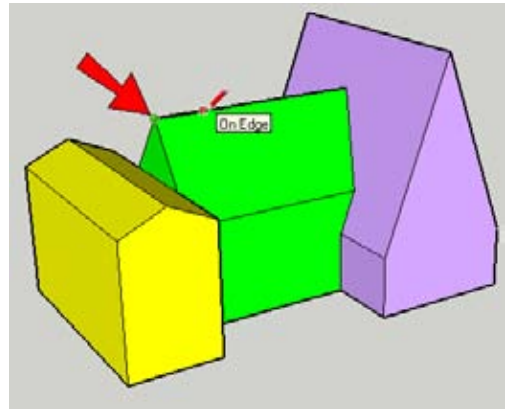

Figure 5-58
8. Now the green-yellow intersection will be resolved. Because the green ridge is higher than the yellow ridge, the far yellow face will need to have material added to it. Start a line as before, from the green ridge endpoint indicated in Figure 5-58, and then hover over the green ridge.